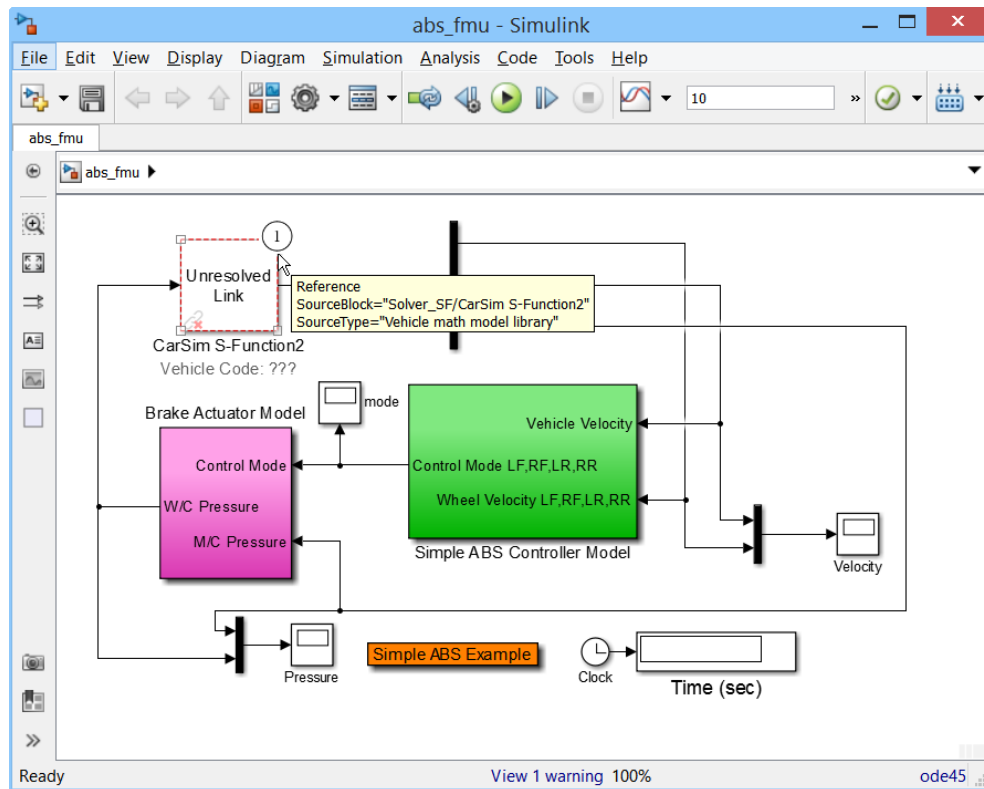
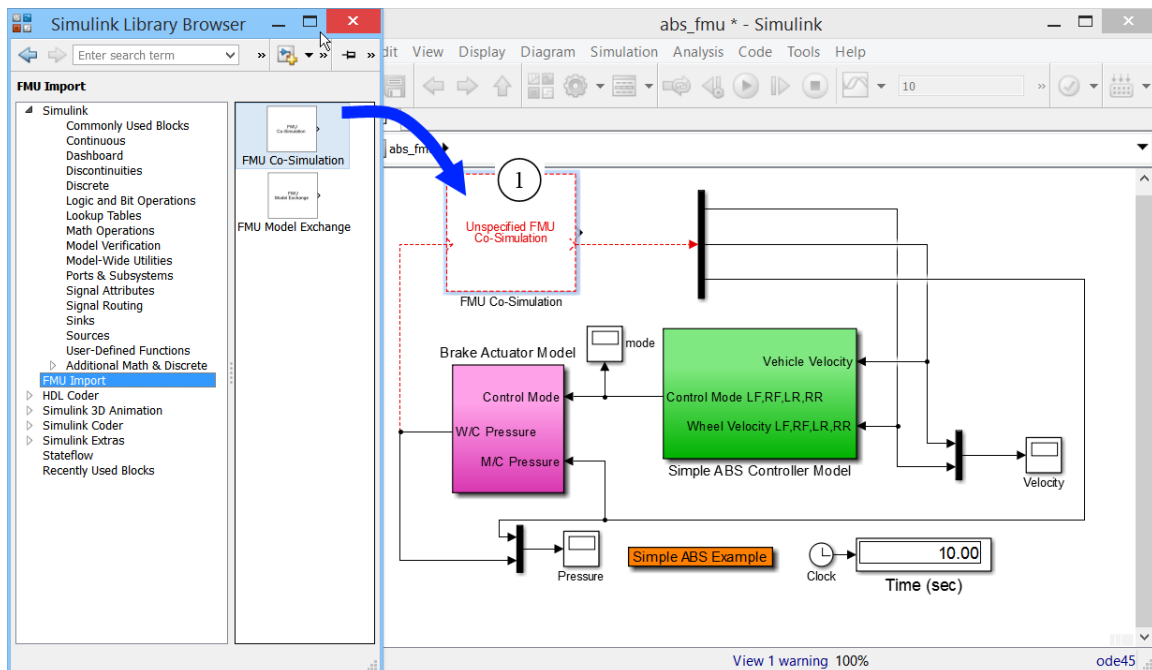
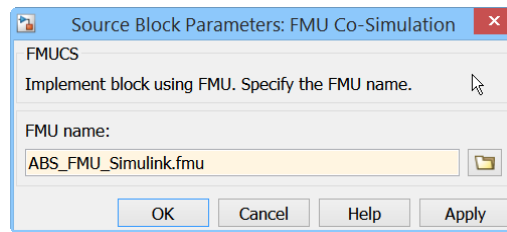

Figure 8. Open copied Simulink model.
Figure 9. Insert a FMU Co-Simulation Simulink block
Figure 10. Input FMU name
2. Open this Simulink model (Figure 8). (Recall that MATLAB 2015a or newer is required with the “Pilot Support Package v0.2.0” installed.)
3. Delete the block named **Unresolved Link** ① that represented the VS S-Function in the original Simulink model.
4. Go to the Simulink **Library Browser** window (Figure 9). Drag the **FMU Co-Simulation** block to the Simulink model.
5. Double-click the block named **Unspecified FMU Co-Simulation** (1) in Figure 9) to bring up a window to set parameters (Figure 10). Set the FMU name to match the name